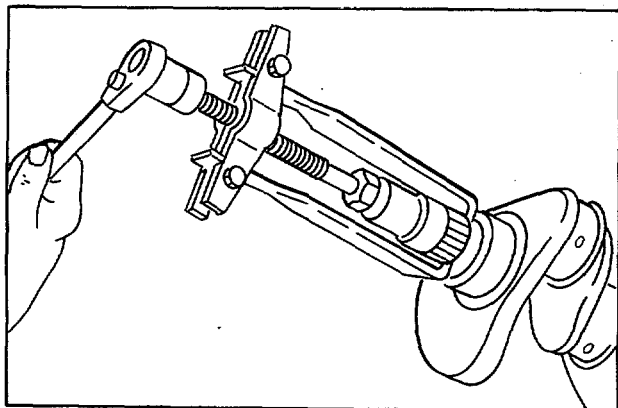

Figure 7. Removing Oil Pump Drive Gear
1. Thread the crankshaft pulley-retaining bolt in the end of the crankshaft (Fig. 7).